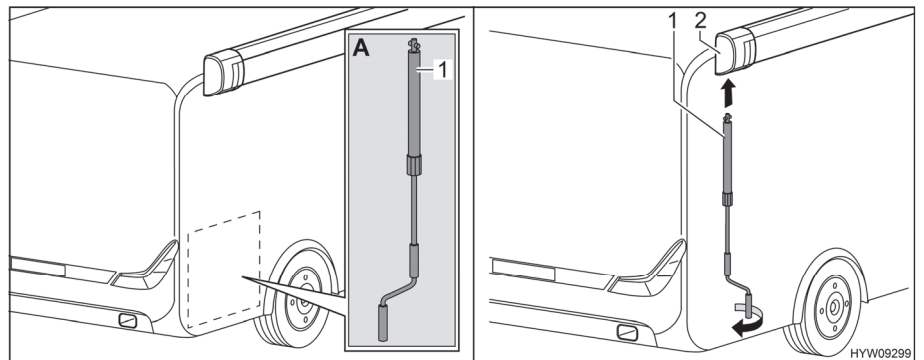

Fig. 47 Installing crank
- Take crank (Fig. 47,1) out of the rear garage (Fig. 47,A).
- Insert crank into bayonet socket (Fig. 47,2) of the awning.